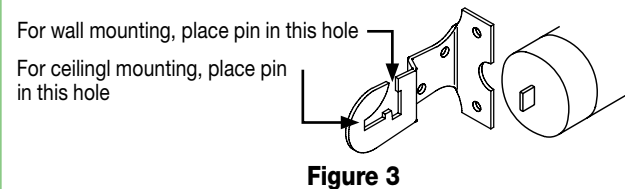

Figure 3
3. Lower spear on left end of roller into left bracket and rotate into locked position (see Fig. 3). Note: The notch on the spring roller should be positioned down. The spring has been pre-tensioned in the factory.